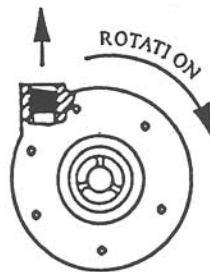

Figure 1: Direction and Port Location
3) When the pump is ready to run, bump start the motor to check rotation and configuration. (see **Figure 1**). Operating the pump in reverse rotation will result in reduced performance, and may cause damage to the pump.
Check the **MOTOR OPERATION AND MAINTENANCE INSTRUCTIONS** if rotation is not as indicated above in Fig 1.